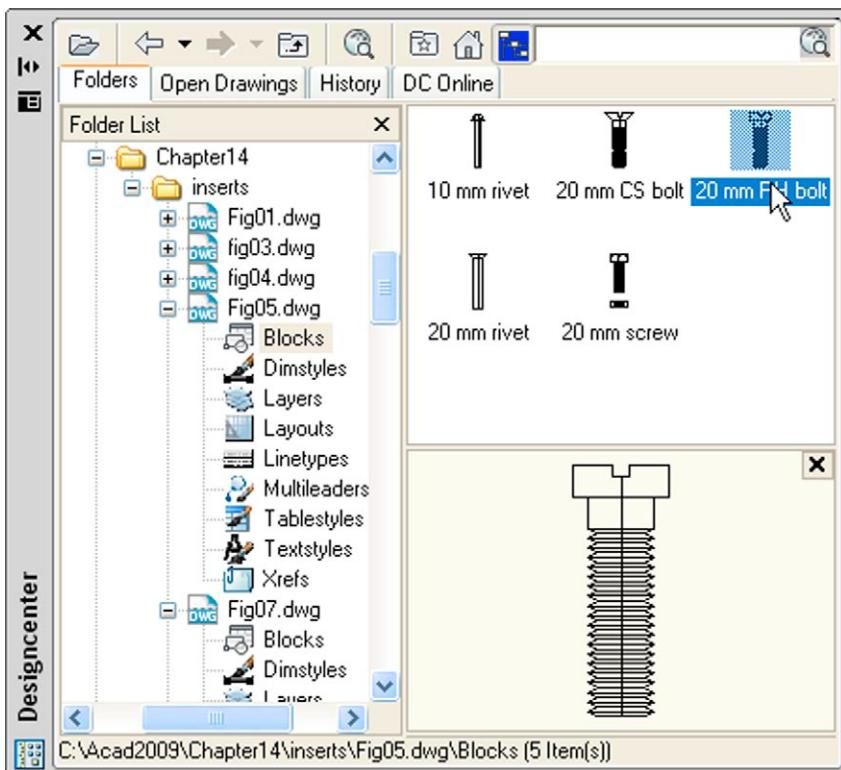

Fig. 14.6 Second example – a library of fastenings
Second example – a library of fastenings (Fig. 14.6)
2. Open the DesignCenter, click on the **Chapter 14** directory, followed by a click on **Fig05.dwg**. Then click again on **Blocks** in the content list of **Fig05.dwg**. The five 3D models of fastenings appear as icons in the right-hand side of the DesignCenter (Fig. 14.6).